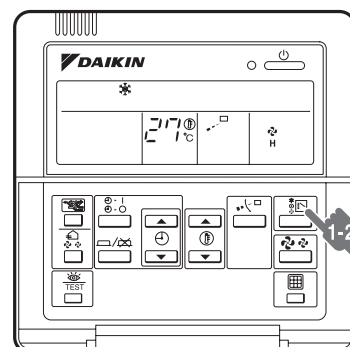

figure 10
**1-6-5 Setting the Master Remote Control (except RXQ series) (Refer to figure 10)**